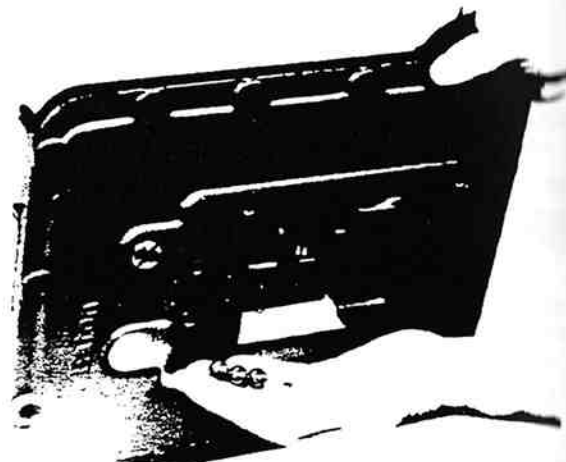

Figure 13-10. Removing Tension Balls.
4. Tilt housing and remove the tension balls installed under springs (figure 13-10).